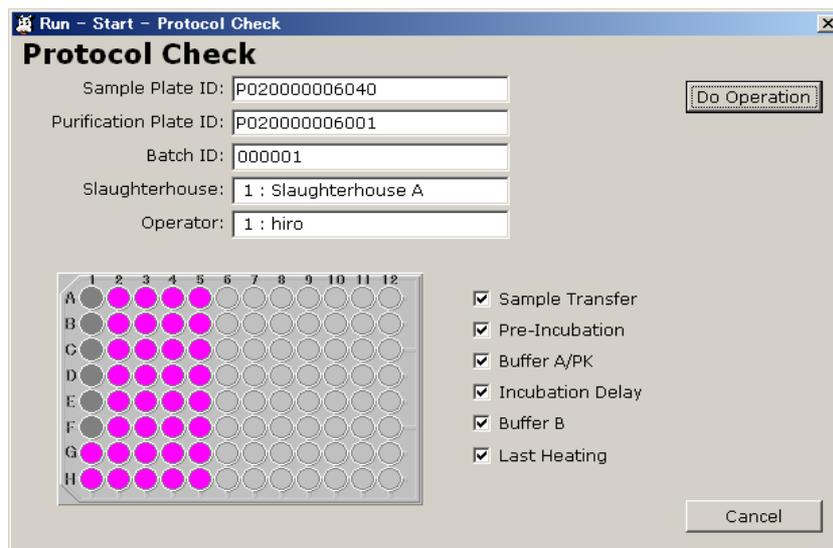

Fig. 8.4-1 : Protocol check
- (2) When all preparations are finished, click the “Confirm” button. The “Protocol check” screen will be displayed (Fig. 8.4-1).